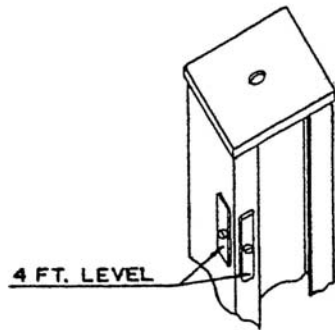

FIGURE 9
1. Tighten the two (2) 7/8" - 14 UNF hex nuts on each cable at the top of each post.
5. Use a four (4) foot level to square and level all four posts.
6. Begin leveling the highest post. Figure 9.